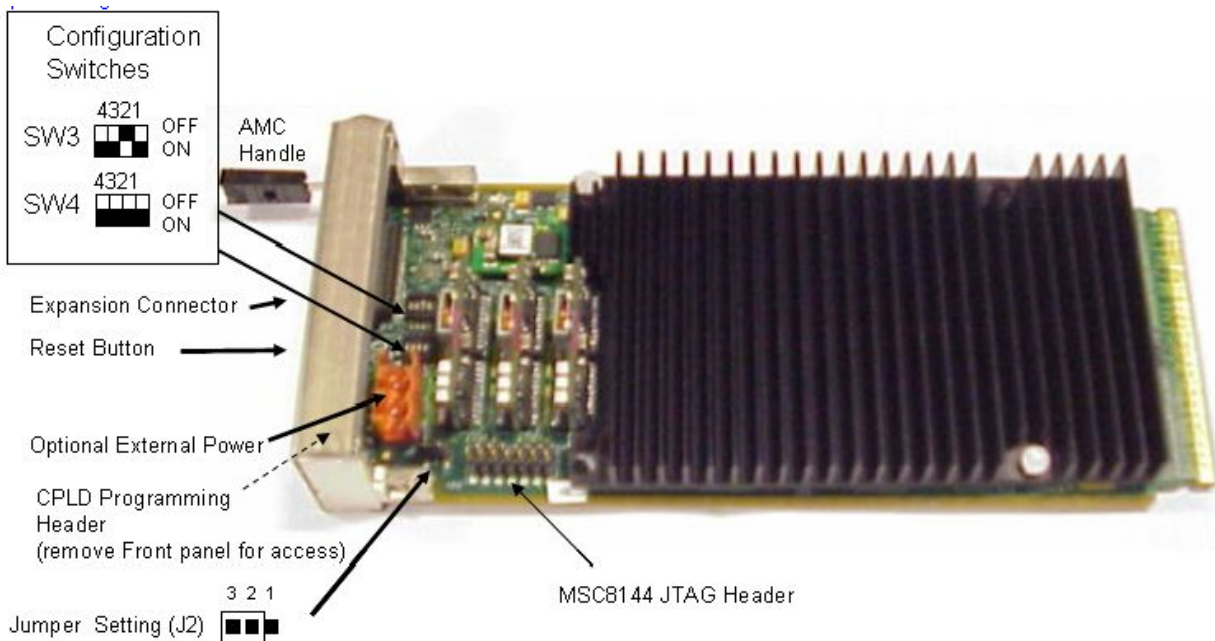

Figure 1. Default Switch Settings
1. Check the default positions and verify the board is operational before changing the switches. The settings for the switches are shown with their default positions in Figure 1 and are described in Table 2.